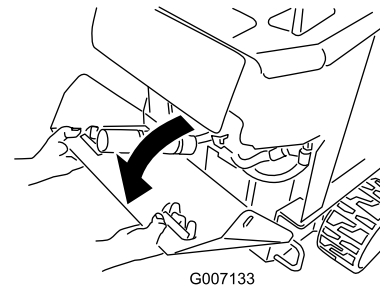

Figure 40
2. Swing the rear access cover down and pull it away from the traction unit (Figure 40).